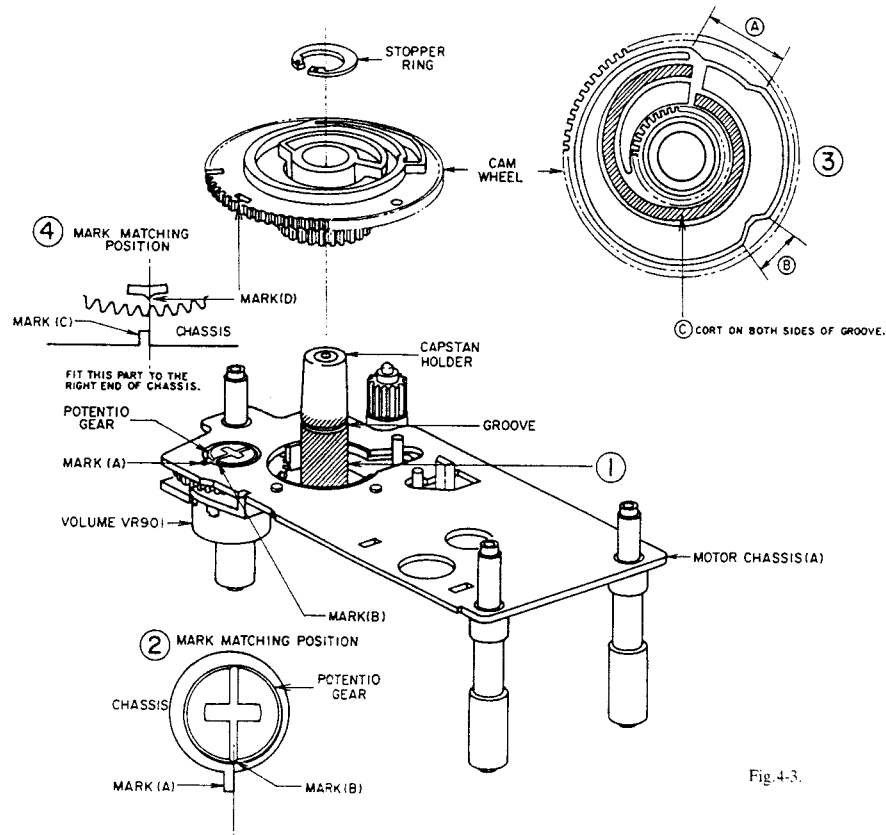

Fig.4-3.
Apply Molybdenum coat on the area of 360° from the bottom to the upside 2mm of groove as shown in the figure. (Fig.4-3-①)
Fit the right end of Mark (A) to the center of Mark (B) as shown in the figure. (Fig. 4-3-②)
- 3) Apply Molybdenum coat on the ①, ② and ③ shown in the Fig.4-3-③
When the cam wheel is set properly, fit the center of Mark (D) to the right end of Mark (C). (Fig.4-3-④)